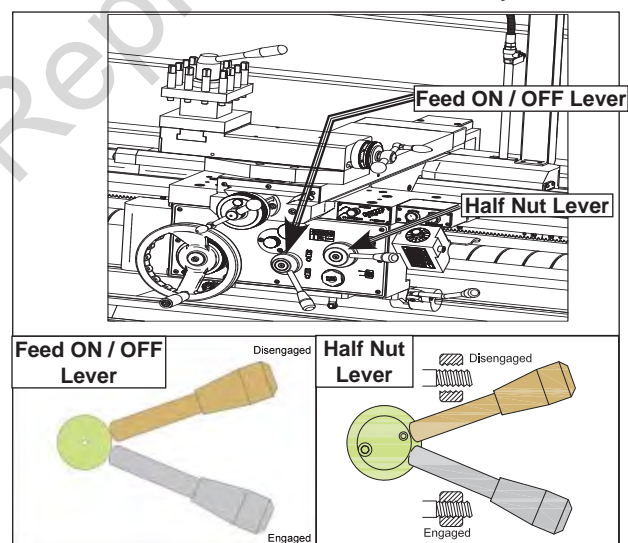

Figure 20. Apron controls for test run.
6. Pull up on the half nut and the feed ON/OFF levers as shown in Figure 20.